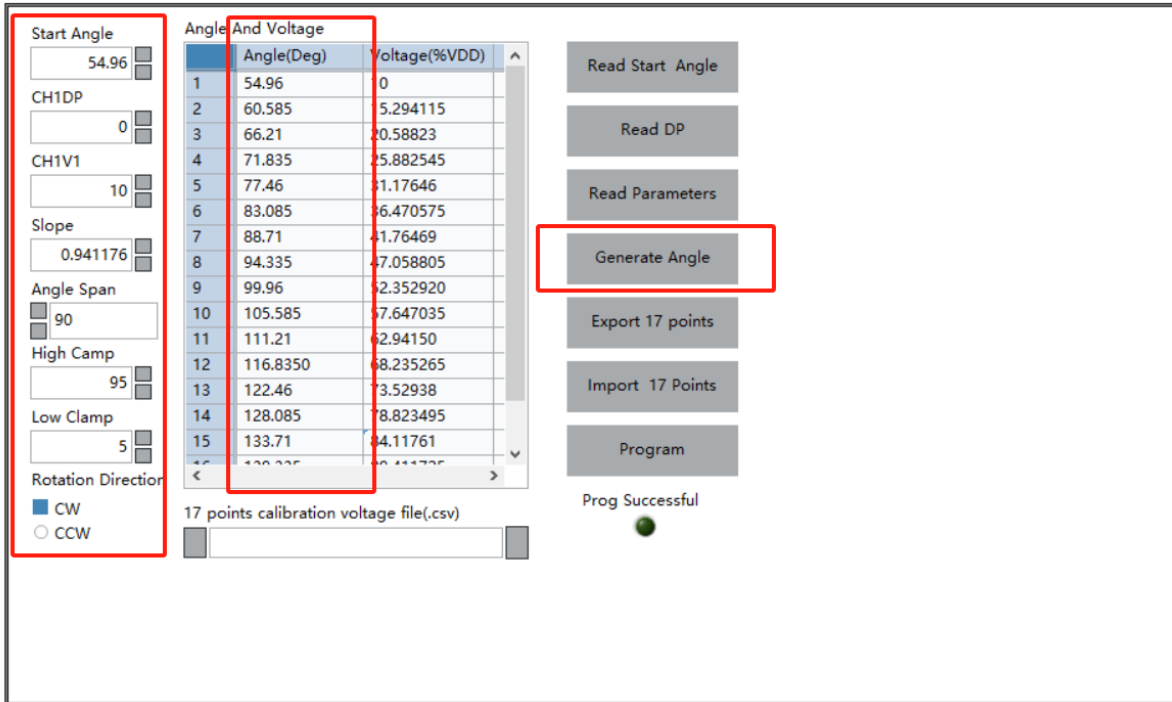

Figure 5.4.3 Fill in the fixed parameters and generate the angle voltage table
- Enter the 17-point programming interface, fill in the "CH1 Start Angle", "CH1DP", "Slope", "Angle Span" High/Low clamp and "Rotation direction" as shown in Figure 5.4.3. After filling in the parameters completely, click the "Generate Angle" button on the right. At this time, the software will calculate the Angle value used in programming according to the above parameters and fill in the "Angle" position in the middle table.